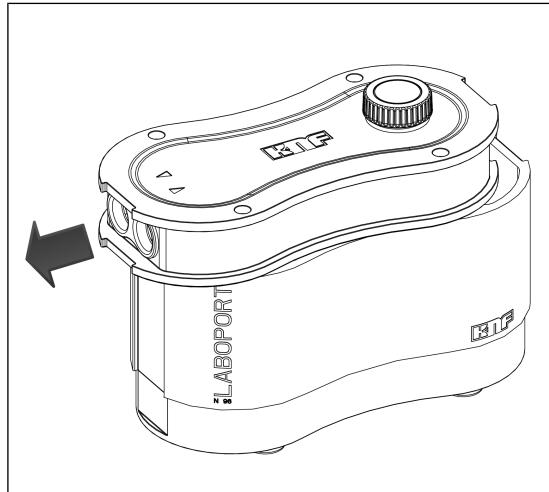

Fig. 9: Pushing housing cover over gas connections (open pump)
2. Push the housing cover (2) over the gas connections (see Fig. 9).